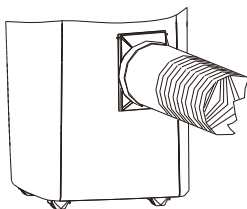

Fig.10
11. Exhaust air duct & its accessories assembly finished as Fig10 drawing illustrated.